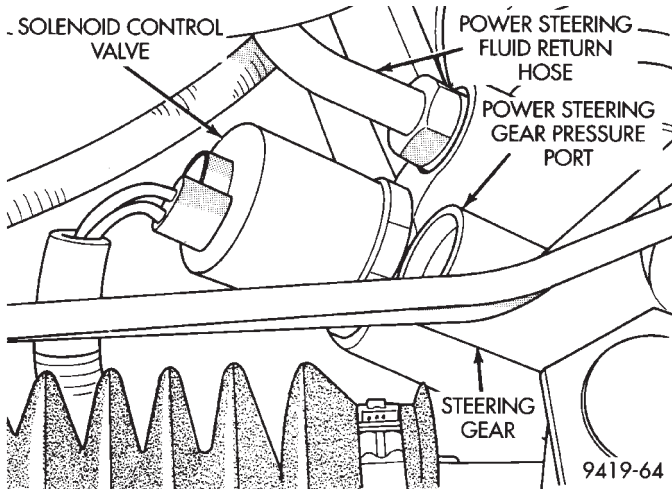

Fig. 9 Power Steering Return Hose At Steering Gear
- (3) Remove the power steering return hose (Fig. 9) from the power steering gear.